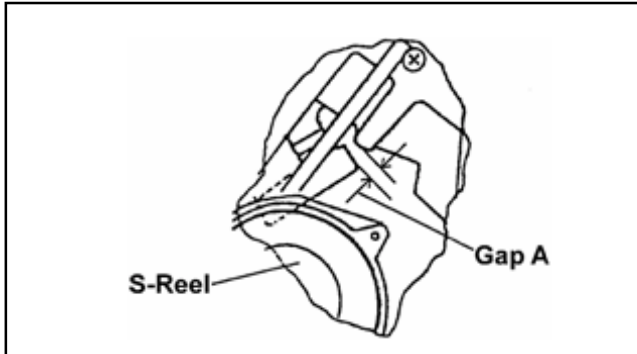

Figure 5-27-2
3. Observe the clearance (A) between Mech. Chassis and M-Stopper as shown in Figure 5-27-2. And make sure that it is within 1.1 to 1.3mm.
4. If not, loosen the 2 screws (A), which fixed M-Stopper Solenoid. And adjust the position of M-Stopper Solenoid so that the clearance (A) is within the specification. And tighten the 2 screws (A).